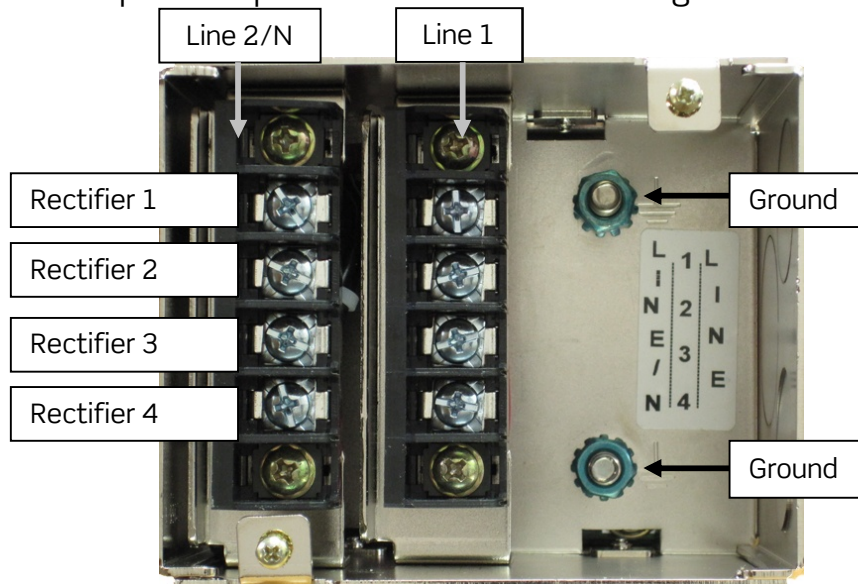

Figure 9 - AC Connections (Individual Feed)
2. Connect each line/hot to Line 1 (L1), rectifier 1 (R1), labeled on the AC terminal block (Figure 9).
2. Connect the line/hot to Line 1 (L1), rectifier 1 (R1), labeled on the AC terminal block (Figure 9).